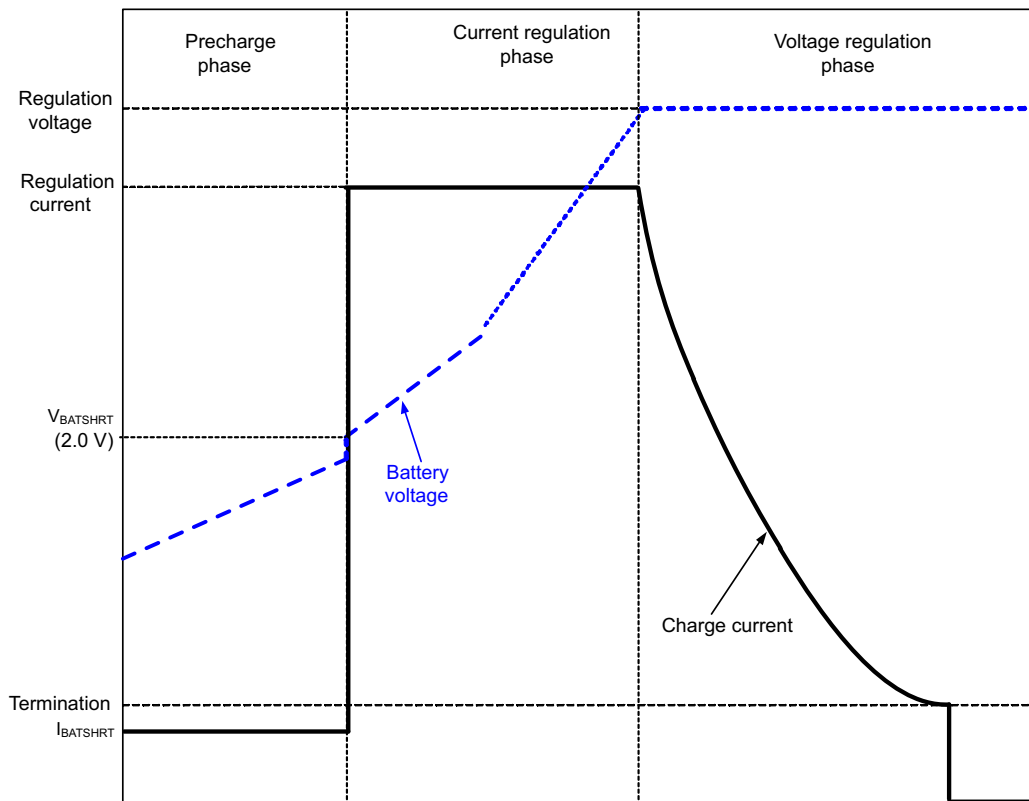

Figure 8. Typical Charging Profile Of Bq24187
When a valid input source is connected, the \overline{CE} bit in the control register determines whether a charge cycle is initiated. By default, the bq24187 enables the charge cycle when a valid input source is connected ($V_{IN} > V_{UVLO}$ and $V_{BAT} + V_{SLP} < V_{IN} < V_{OVP}$). There are 4 loops that influence the charge current; constant current loop (CC), constant voltage loop (CV), thermal regulation loop and input voltage dynamic power management loop (V_{INDPM}). During the charging process, all four loops are enabled and the one that is dominant takes control. The bq24187 supports a precision Li-Ion or Li-Polymer charging system for single-cell applications. Figure 8 shows a typical charge.
When the battery is deeply discharged or shorted, the bq24187 applies $I_{BATSHORT}$ to the battery to close the battery protector switch and bring the battery voltage up to acceptable charging levels. Once the battery rises above $V_{BATSHRT}$, the charge current is regulated to the value set in the I²C register by the I_{CHARGE} bits. The charge current is regulated to I_{CHARGE} until the voltage between BAT and PGND reaches the regulation voltage. The voltage between BAT and PGND is regulated to V_{BATREG} (CV mode) while the charge current naturally tapers down as shown in Figure 8. During the CC or CV modes, if the die temperature heats up, the thermal regulation loop reduces the input current to maintain a die temperature at 125°C.